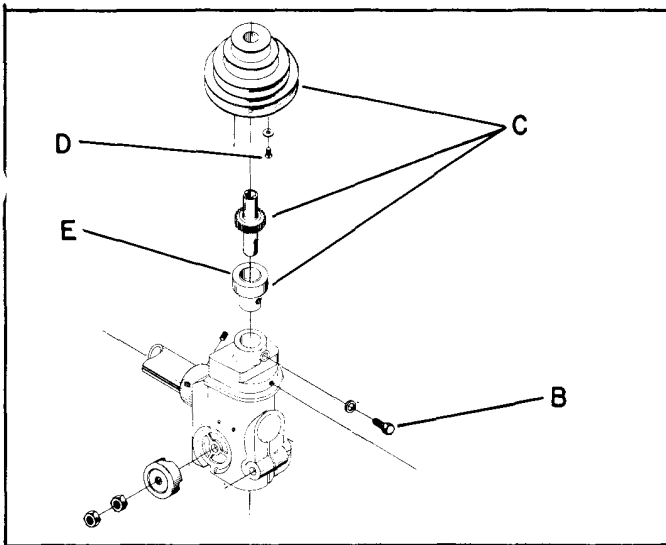

Fig. 23
To replace the bearing, remove the spindle pulley guard. Remove the hexagon head cap screw (B) Fig. 23, from the front of the head and push the pulley assembly (C) upward, out of the head casting. Remove the three screws and washers (D) from the inside of the pulley and press the old bearing (E) out of the pulley. Install a new bearing and reassemble.